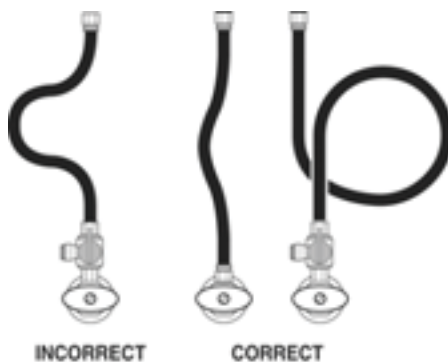

Figure 8: Flexible Hose Positions
**Caution:** A longer riser tube assembly will be required if a gentle loop cannot be made (See Figure 8).